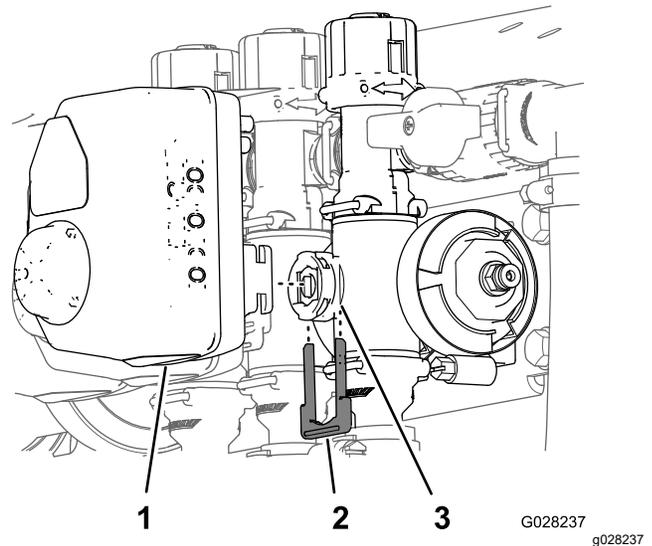

Figure 67
3. Remove the retainer that secures the actuator to the manifold valve for the rate control, agitation, master section, or section valve (Figure 67).